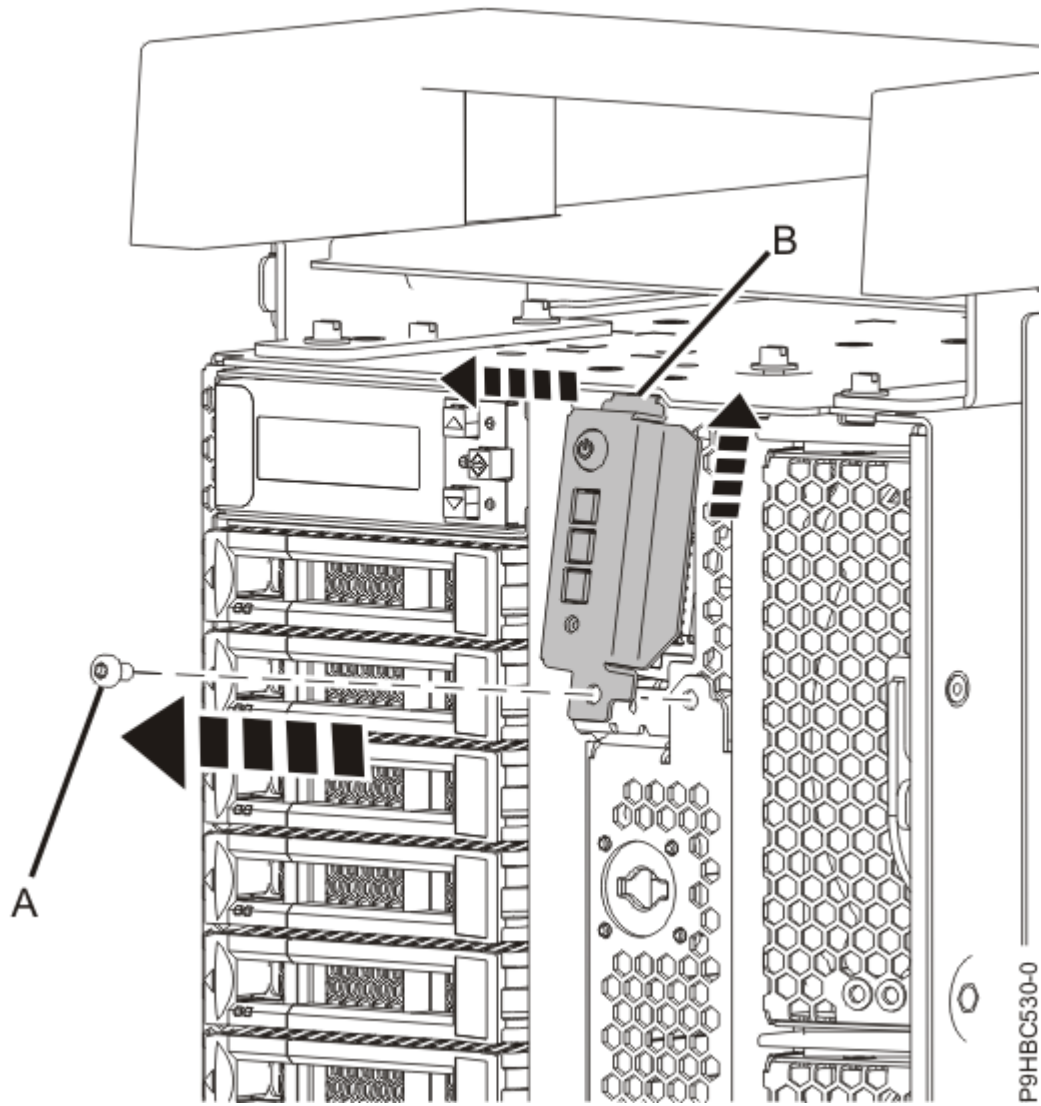

*Figure 16. Removing the control panel from the bracket for a rack-mounted system*
2. For a rack-mounted system, loosen the screw **(B)** that secures the control panel **(A)** to the bracket as shown in Figure 16 on page 18.